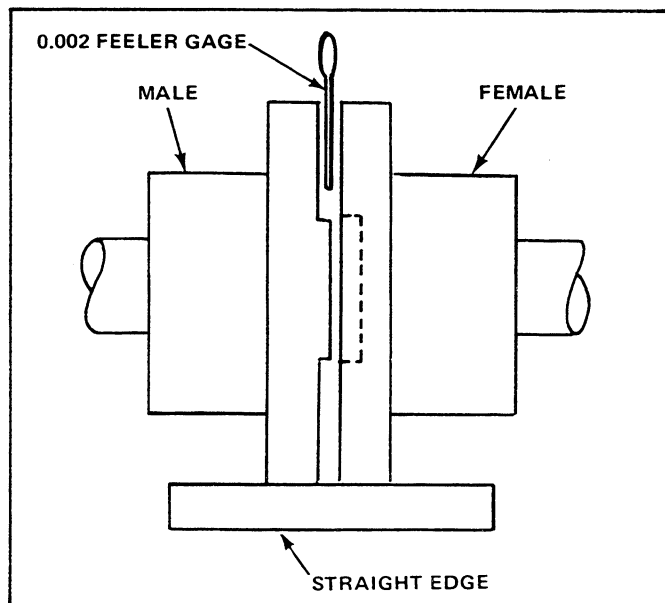

Figure 9-14 *Checking Alignment (Parallelism) of Coupling and Propeller Flanges.*
2. It will also be necessary to move the engine and transmission from one side or the other on the bed to obtain horizontal alignment. This can be done with a jack placed horizontally between the engine and the foundation. At the same time, a straight edge is laid across the edges of the flanges at the top and side to check the parallel alignment of the coupling edges. See Figure 9-14.